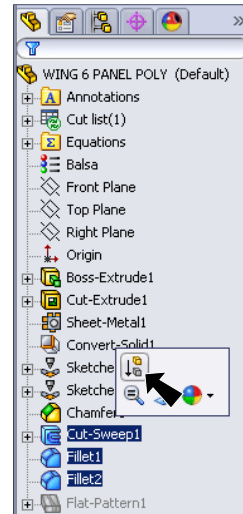

Fig. 65
Step 1. The Sheet Metal will flatten with the Cut-Sweep and Fillets suppressed. **Ctrl click** the Cut-Sweep1 and both Fillets, release the Ctrl key and click **Suppress**  from menu, **Fig. 65**.